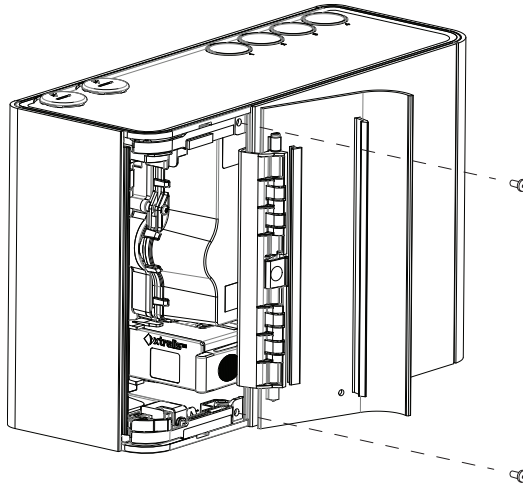

Figure 2: Fascia removal - remove screws
2. Remove the two screws along side the door hinge, as shown below in Figure 2: Fascia removal - remove screws.